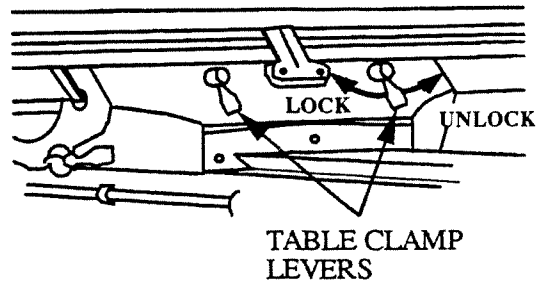

Figure 8-22. Table Clamping
8.27 TABLE CLAMPING (Figure 8-22)